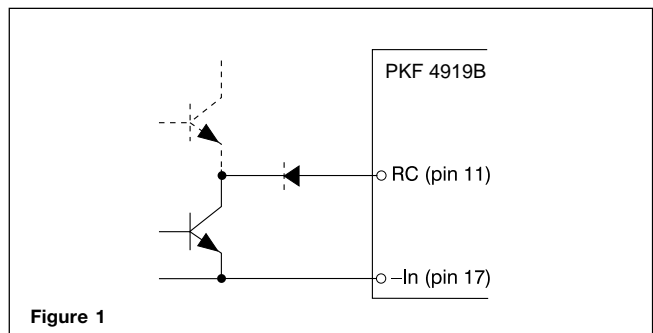

Figure 1
Turn-on or turn-off can be realized by using the RC-pin. If pin 11 is connected to pin 17 the power module turns off. Normal operation is achieved if pin 11 is open (NC). To ensure safe turn-off the voltage difference between pin 11 and 17 shall be less than 1.0V. RC is an open collector compatible output with a sink capacity of 1mA (see fig. 1).